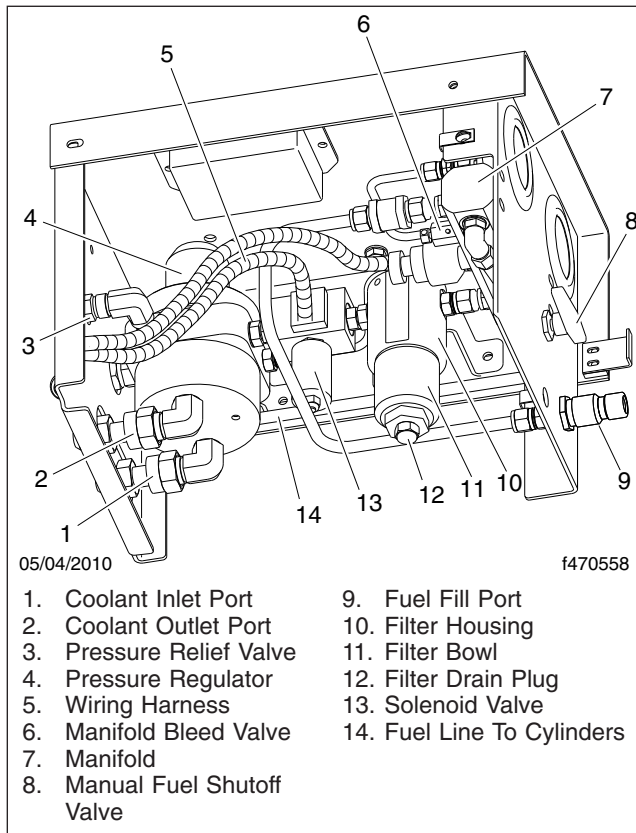

Fig. 21.19, CNG Fuel Panel Components
- 2.4 Slowly open the bleed valve on the manifold to relieve remaining fuel pressure within the system. See Fig. 21.19.